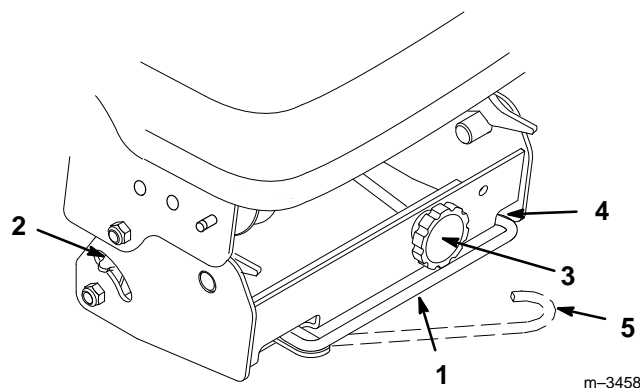

Figure 35
1. Check the tension indicators on each side of the pulley box. If the tension indicators are not in the same position on both the left and right sides, release the belt tension and turn the adjustment knob. Push the belt tension release arm back toward the pulley box to tension the belt (Fig. 35).
3. Once the indicators are in the same position on both sides, swing the tension release arm into the pulley box by moving it into the position shown in Fig. 35.